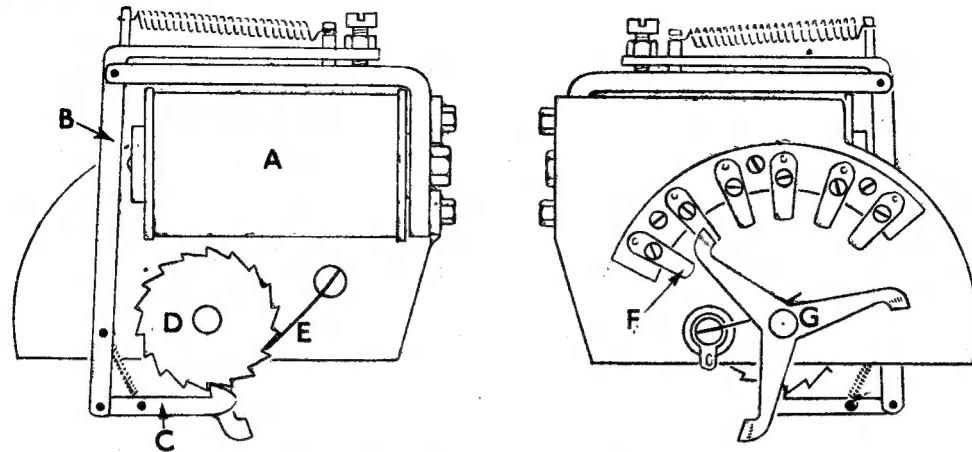

Fig. 8. Circuit selector. The overall width is about 3½ in.
The construction of a selector is shown in Fig. 8. A is an electromagnet and B its armature carrying the spring-loaded pawl C. This rotates wheel D which is provided with a detent E. It will be seen that the electromagnet does not shift D directly—the wheel is rotated on the backward, spring-impelled movement, and this is important. I have not been able to make a selector work satisfactorily except on the backward movement where the impulse (being generated by a spring) is constant. If the action is reversed, a new battery with its increased power tends to make the wheel overshoot ; one of the essentials in construction is accuracy, so that the wiper arm stops quite positively on each contact.
Selectors are available in the surplus market, but as they often have four or more banks of wipers and contacts, they use about 12 W of power and are unduly large. Useful ones may, however, be made fairly simply on the lines shown in Fig. 8 the moving parts being of steel and the frame aluminium. Soft-iron is used for the magnetic circuit. It is normally necessary to use rather small teeth on the wheel and one generally finds that the number of circuits to be controlled is fewer than the number of teeth (i.e. steps). It
is usual, therefore, to make the number of teeth a multiple of the steps required and to fit two, three or four wiper arms. Fig. 8 shows 18 teeth, 6 contacts (F) and 3 wiper arms (G) a convenient arrangement giving control over 6 circuits.